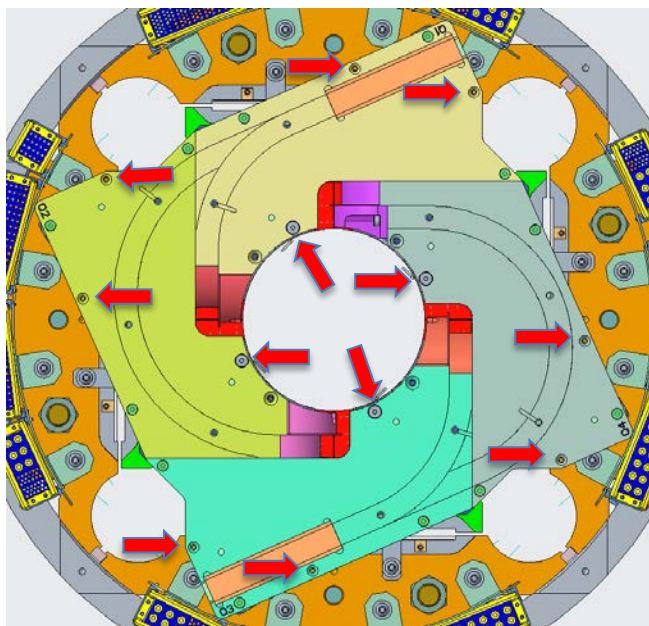

Figure 5: 1st Layer Quadrant Fastener Locations
8. Attach each of these quadrants to the mounted base plate with M4 x 25mm screws, Qty 3 per quadrant. Refer to Figure 5 for screw locations.